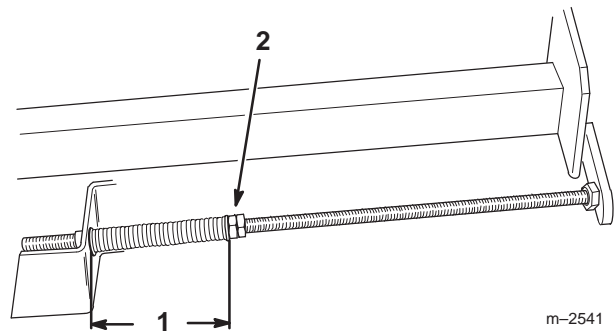

Figure 26
6. Tighten the jam nuts on the adjusting shafts until the springs are compressed to a length of 5 inch (12.7 cm) (Fig 26).